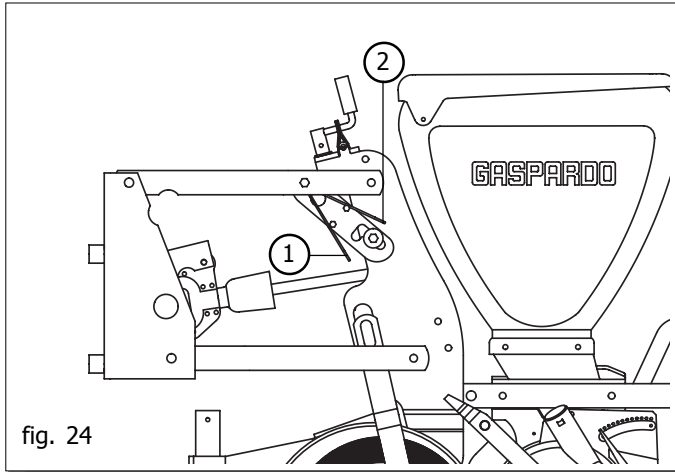

fig. 24
- Hook the spring the position 1 (Fig. 24),
- Hook the spring the position 2 (Fig. 24);